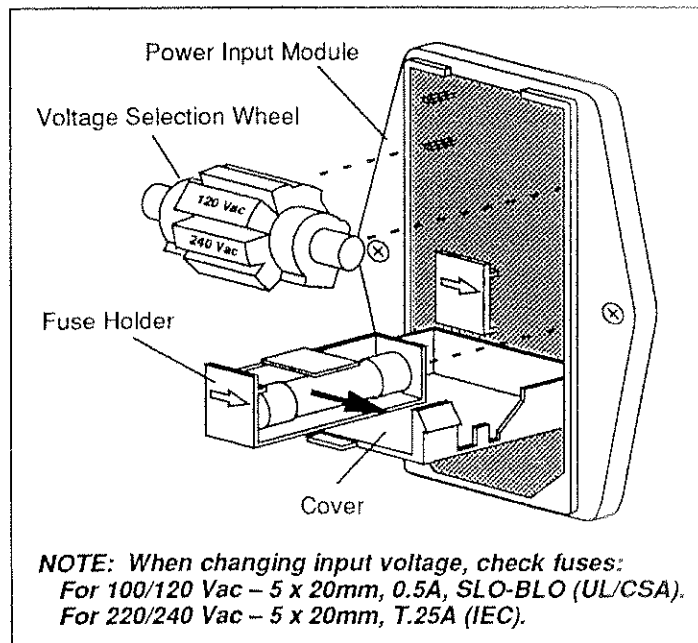

Figure 2-3. Power Input Module
This instrument can be configured to operate on line voltages of 100, 120, 220 or 240 Vac by changing the position of the voltage selection wheel in the power input module on the rear panel. If you need to change the voltage selection, follow the procedure below and refer to Figure 2-3.
- (1) Remove the line cord from the power input module.
- (2) Using a blade screw driver, pry open the cover of the input power module.
- (3) Remove the voltage selection wheel from inside the power input module.
- (4) Rotate the voltage selection wheel and place it back into the module so that the correct voltage appears in the window when the cover is closed.
- (5) Check the two line fuses for the correct rating. See the note in Figure 2-3.
- (6) Plug the line cord into the power input module.